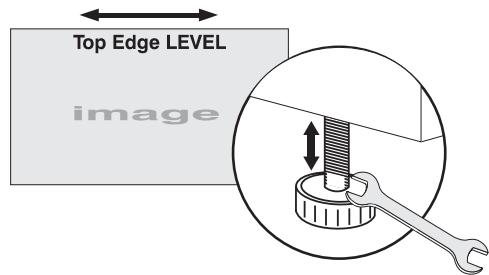

Figure 2.32 Level the TOP Edge
- RE-CHECK SIDE-TO-SIDE LEVELING: With a good test pattern on screen, double-check projector leveling (see 2.3, Projector Position and Mounting) so that the top edge of the image is parallel to the top edge of the screen. See Figure 2.32.